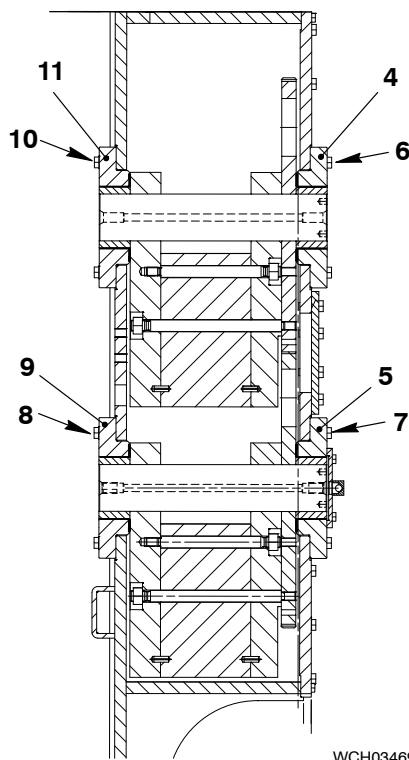

Fig. 16
- 10) Make sure all the screws (6, 10, 7, and 8, Fig. 16) are loose or removed. One screw for each bearing must stay in position to hold the bearing.